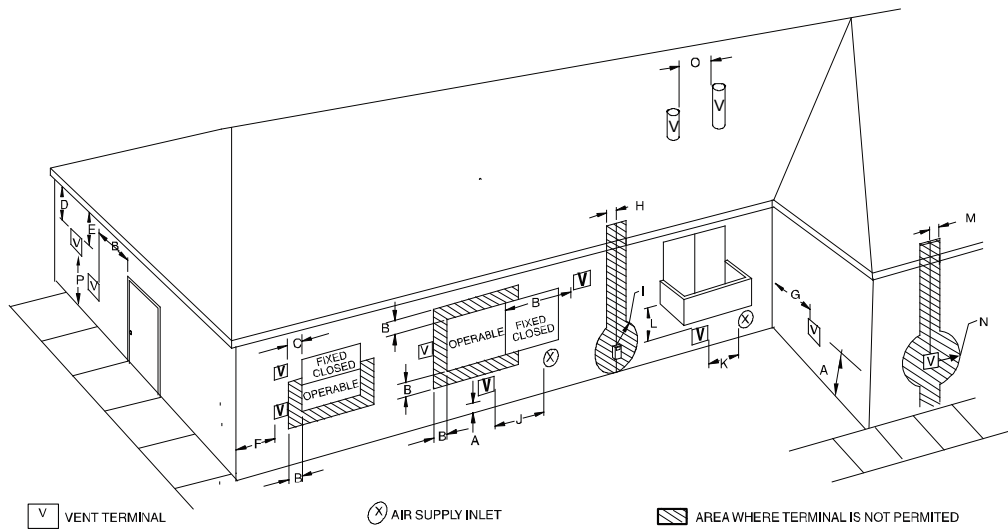
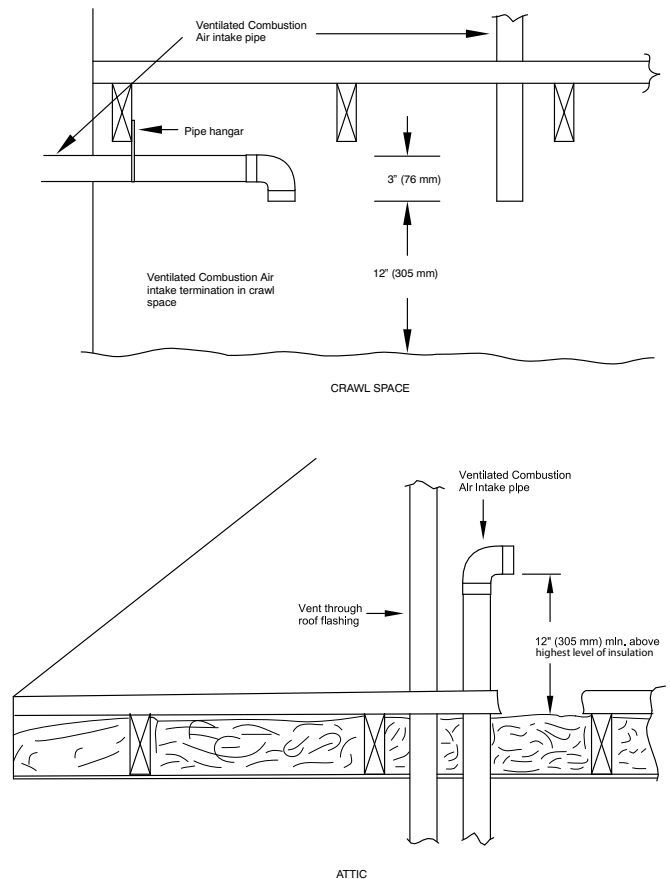

Fig. 43 – Ventilated Combustion Air and Non-Direct Vent Termination Clearance
Fig. 48 – Vent Terminations for Ventilating Combustion Air
In a ventilated combustion air option, the vent terminates and discharges the flue products directly to the outdoors similar to a direct vent system. See Fig. 43 for references to clearances required by National code authorities.
in the Air For Combustion and Ventilation Section. Do not use an abandoned chimney to supply outside air to the furnace. See Fig. 43 for references to vent clearances required by National code authorities.
For vent termination clearance, references to National codes are shown in Fig. 42 for Direct Vent/2-Pipe system and Fig. 43 for Ventilated Combustion Air/Non-direct Vent/1-Pipe system. For exterior termination arrangements, refer to Fig. 40 for Direct Vent/2-Pipe system and Fig. 41 for Ventilated Combustion Air/Non-Direct/1-Pipe system. Contact Local code authorities for other requirements to and/or exemptions from the National codes shown in the figures.
1. Comply with all clearance requirements stated in Fig. 42 or Fig. 43 per application.
The vent pipe for a Ventilated Combustion Air System must terminate outdoors. See Fig. 43 for references to vent clearances required by National code authorities. Allowable vent terminations are shown in Fig. 41. The combustion air pipe terminates in a well-ventilated attic or crawl space. Follow the clearances as shown in Fig. 48.
The vent pipe for a Non Direct Vent (1-pipe) system must terminate outdoors. See Fig. 43 for references to vent clearances required by National Code authorities. Allowable vent terminations are shown in Fig. 41.